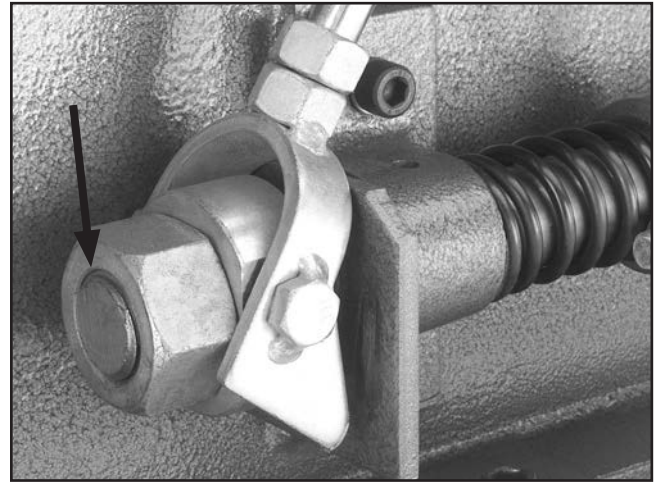

Figure 50. Tension nut flush with threads.
4. Turn the tension nut until the threads of the tension shaft are flush with the nut, as shown in **Figure 50**.